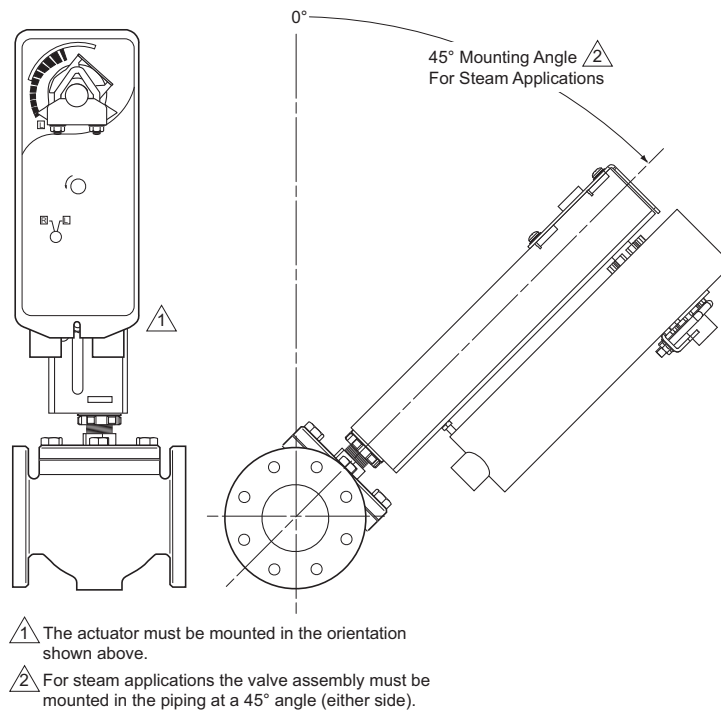

Figure-17 Steam Application Mounting Position.
- On steam applications, the globe valve assembly must be mounted at 45° from vertical (Figure-17).